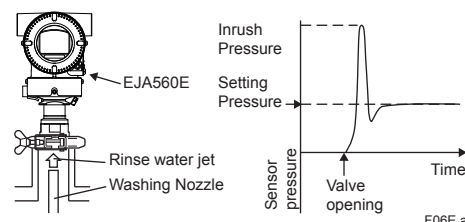

Figure 5. Direct washing of Sensor with Washing Nozzle
- Direct washing of sensor with washing nozzle (Figure 5)